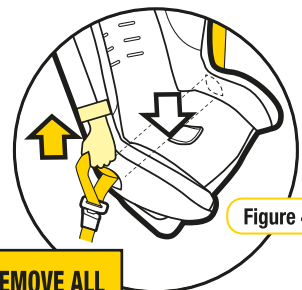

Figure 4
Step 3: Push down on the base of the restraint (with knee or hand) whilst pulling the sash section of the vehicle belt firmly up in direction of the yellow arrow in Figure 4. (This will tighten the lap belt across the seat base).